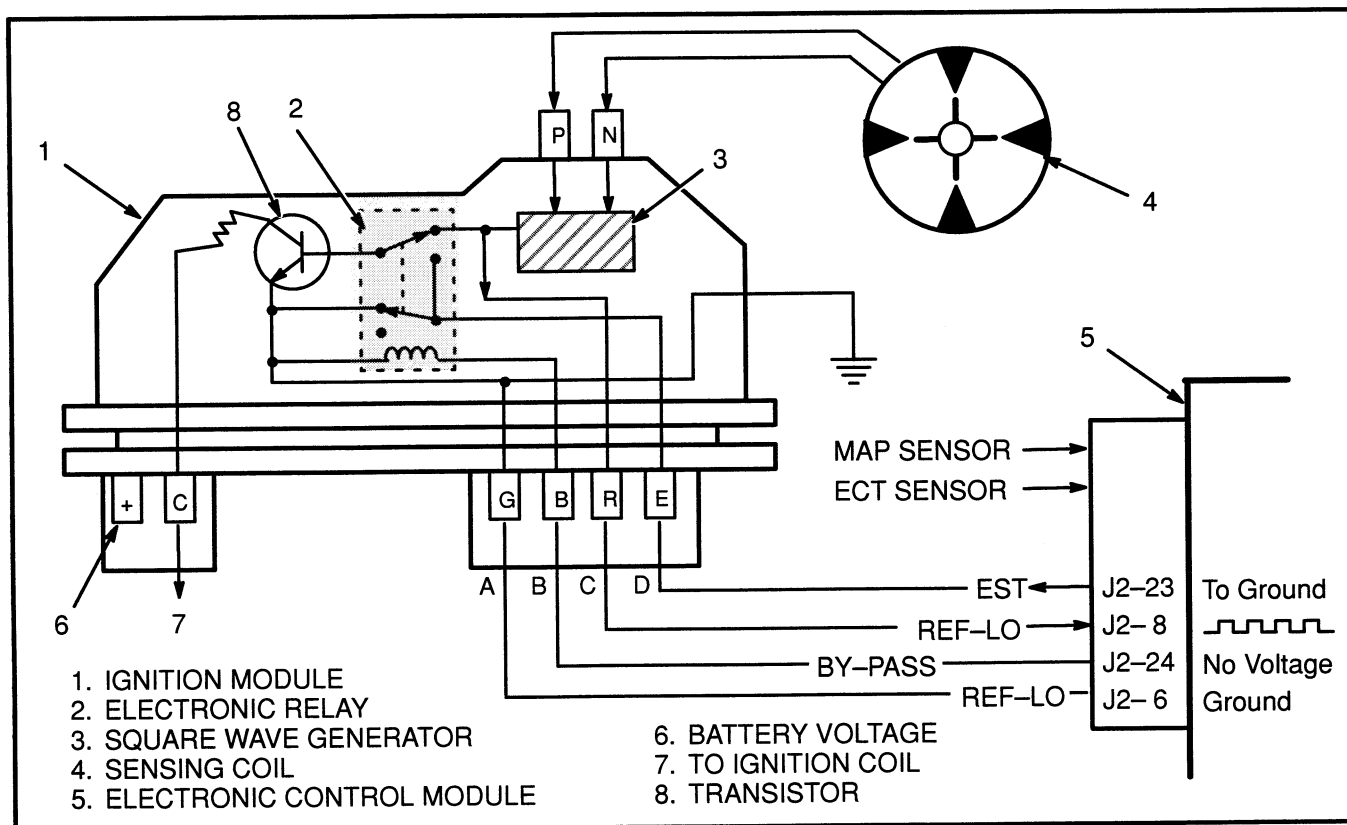

FIGURE 5. IGNITION MODULE WHEN ENGINE IS BEING STARTED
See FIGURE 5. When the engine is rotated by the starter, the electronic relay (2) is in the deenergized position. The sensing coil is connected through the square wave generator (3) to the base of the transistor (8).